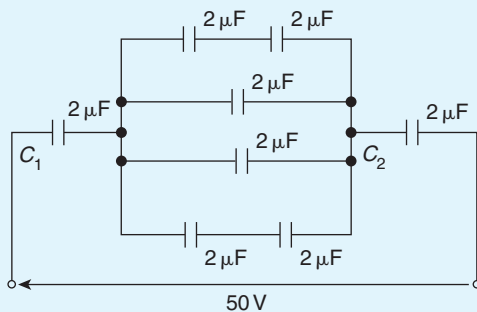

Figure 6.13
12. For the circuit shown in Fig. 6.13, determine (a) the total circuit capacitance, (b) the total energy in the circuit and (c) the charges in the capacitors shown as  $C_1$  and  $C_2$ .